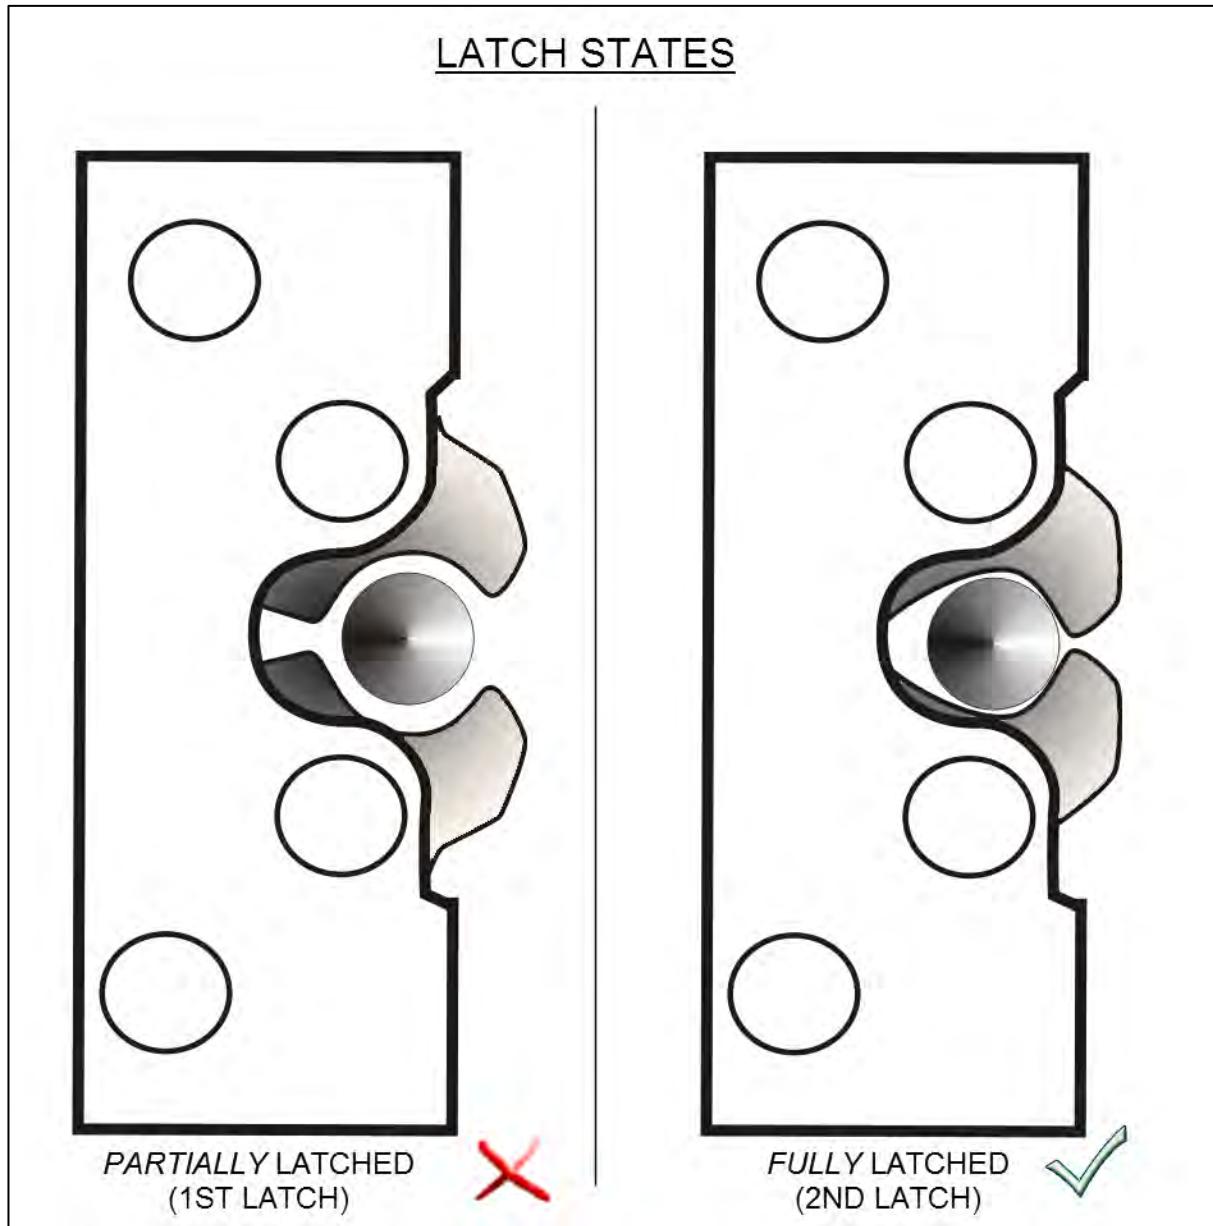

Figure 33
39. The second latch state (Figure 33) should be applied by the lock assist mechanism alone, *without any operator intervention each time the door is closed.* If door fails this test, return to step 34.